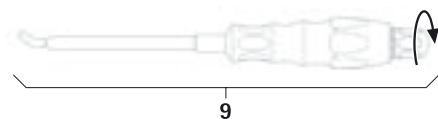

Fig. 13
- Mount rod insertion instrument 9, see Fig. 13.